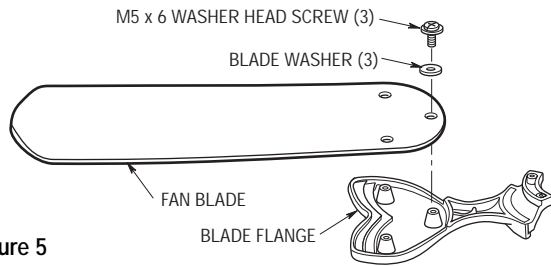

Figure 5
7. Mount blade flanges to fan blades using three M5 x 6 washer head screws and three blade washers (Figure 5).